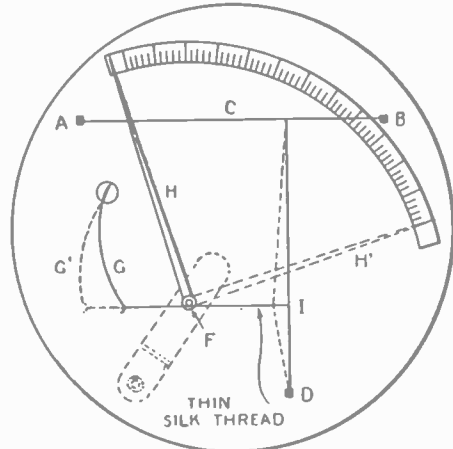
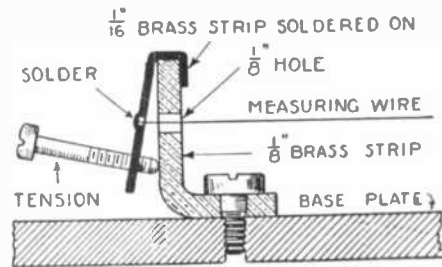

FIG. 1
FIG. 3
The next step is to prepare the base plate which should be about 3 inches in diameter and 1/8-inch thick. At the position (A) in Fig. 1 drill a 1/4-inch hole, into which is fitted a 1/8-inch bolt and nut. The end of this bolt projects about 1/8-inch above the face of the nut (which should not be more than 1/8-inch thick) on the inside of the base plate. This bolt forms one of the terminals of the meter and has one end of the measuring wire soldered to it. It should be well insulated from the base plate as shown in Fig. 2 in which three fibre washers and two brass washers are used.
Fig. 3 shows the method of fixing the other end of the measuring wire at (B) in Fig. 1 with a means of adjusting its tension.
At (D) in Fig. 1 another brass screw will be required. This should be screwed into the base plate with its end projecting above the level of the plate and provides a place
In assembling the instrument (referring to Fig. 1), first fix up the two supporting blocks (A) and (B), loosen the adjusting screw at (B) completely and solder the measuring wire tight across the two points (A) and (B). Now attach the wire